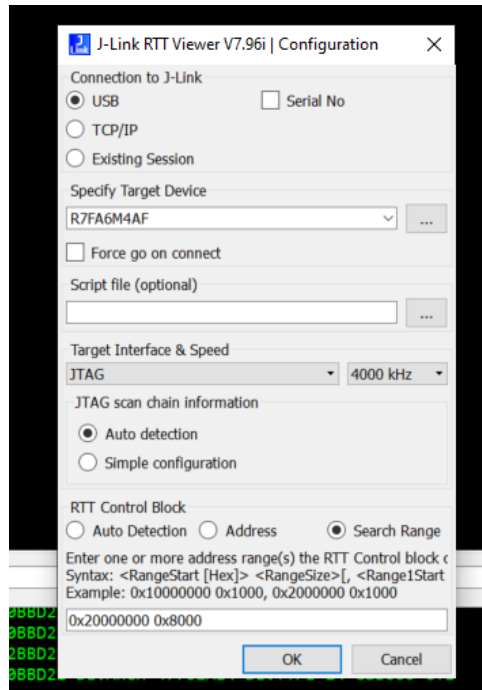

Figure 21. RTT Viewer Options
5. Ensure your configuration matches the configuration shown in Figure 21.